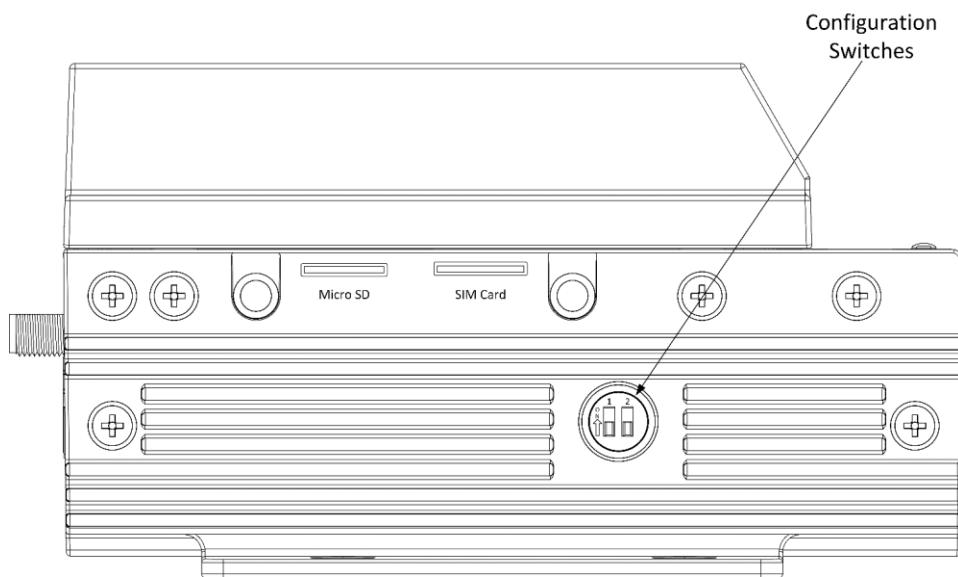

Figure 1.2—Configuration Switches for Enabling Protected Mode (Cover Removed)
1. Remove the small round plug from the left side panel. Note the switch location shown in Figure 1.2.